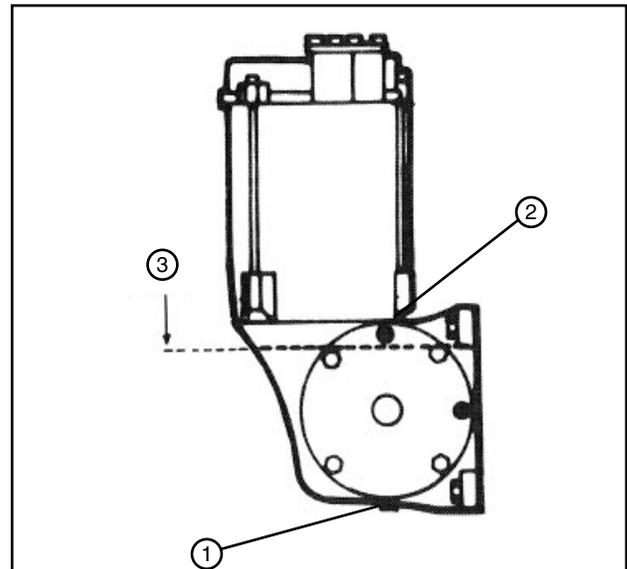

Figure 55-3 1. Drain Plug
1. Remove the drain plug and the fill plug. Drain the oil and install the drain plug. See figure 55-3.
2. Fill the gearbox to within 1/2 in (12.7 mm) of the bottom of the fill plug hole with Valley Gear Lube. The capacity of the gearbox is approximately 1 quart (0.9 liter). See figure 55-3.